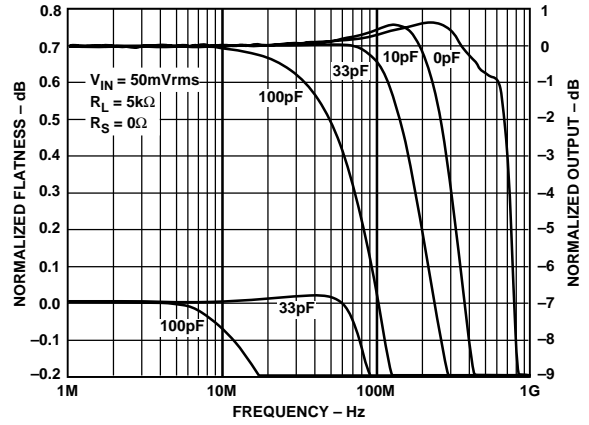

Figure 18. Frequency Response vs. Capacitive Load
- 4Decreasing  $R_L$  slightly lowers the bandwidth. Increasing  $C_L$  significantly lowers the bandwidth (see Figure 18).